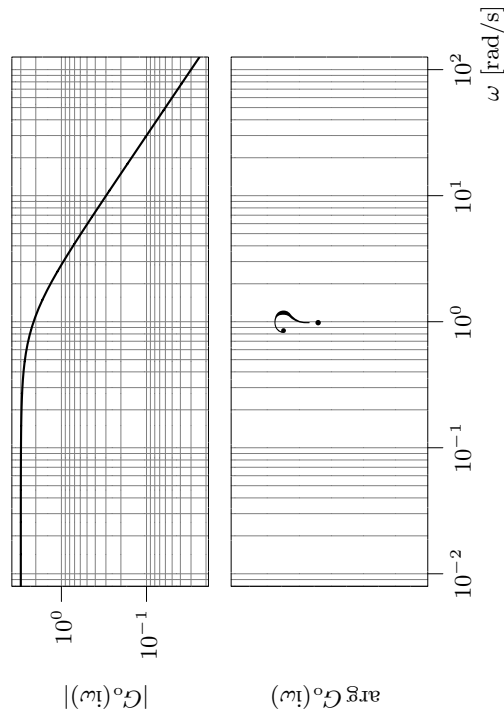

Figure 5.12a
- 5.12 a) A plot of the amplitude curve of a stable transfer function  $G_o(s)$  is given in Figure 5.12a. Choose one of the following alternatives regarding the stability of the closed loop system  $\frac{G_o}{1+G_o}$ :